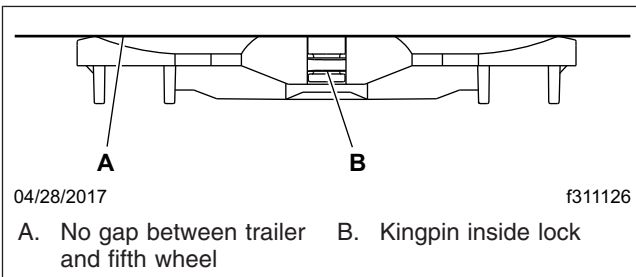

Fig. 10.6, Coupling Inspection
- Perform a coupling inspection, checking that there is no gap between the bottom of the trailer and the fifth wheel, and that the kingpin is securely locked. See Fig. 10.6
10. Apply the tractor parking brake, then perform a physical check for positive kingpin lockup, and that there is no gap between the trailer and the fifth wheel. See Fig. 10.6.